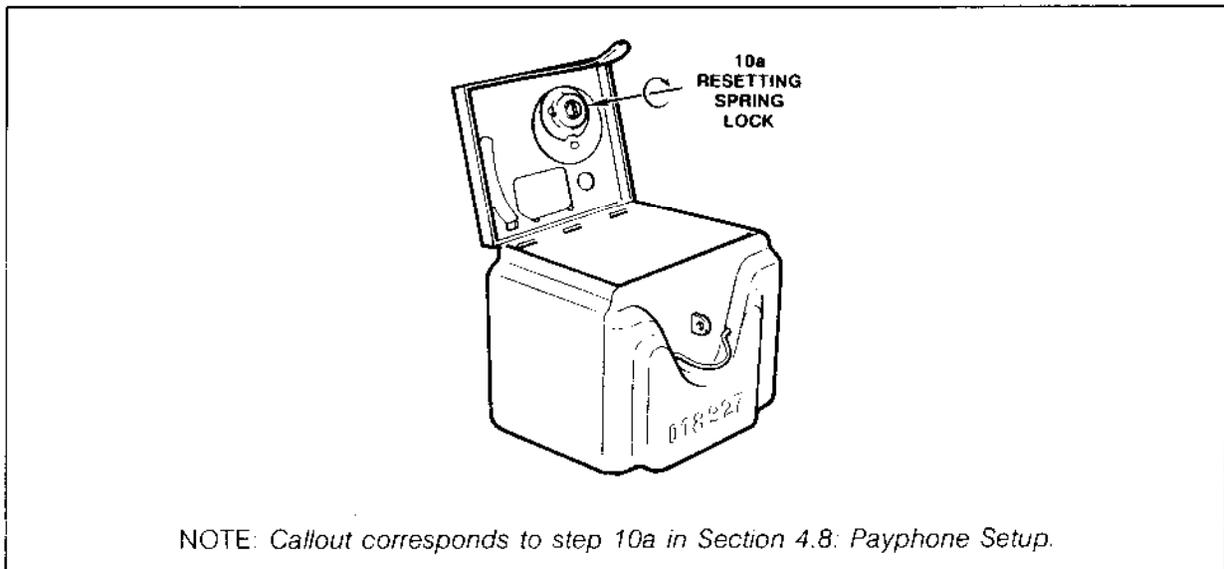

FIGURE 12. PAYPHONE SETUP--CASHBOX.
- (9) If the coin chute and coin relay-hopper assembly were removed, install them now.
- (10) If the cashbox was removed, install it now.
- a. Release catch and open cashbox cover. Using a blade screwdriver, turn the screw on the bottom of the cashbox cover clockwise until you hear a click. This resets the spring lock of the cashbox cover window. See Figure 12.